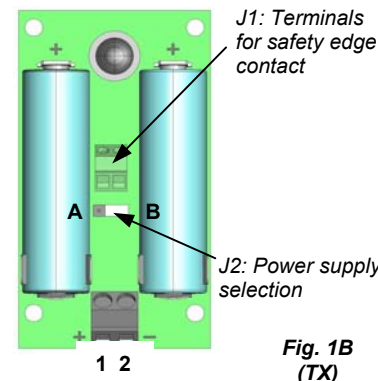

Fig. 1B (TX)
- Connect the wires as described in paragraphs 4 and 5 and select the source of power supply with the relevant jumper (J2, fig 1B):
- Connect the output contact of the safety edge (or other safety devices) to the relevant terminals (J1, fig. 1B). If this option is not used, don't remove the existing short-circuit.